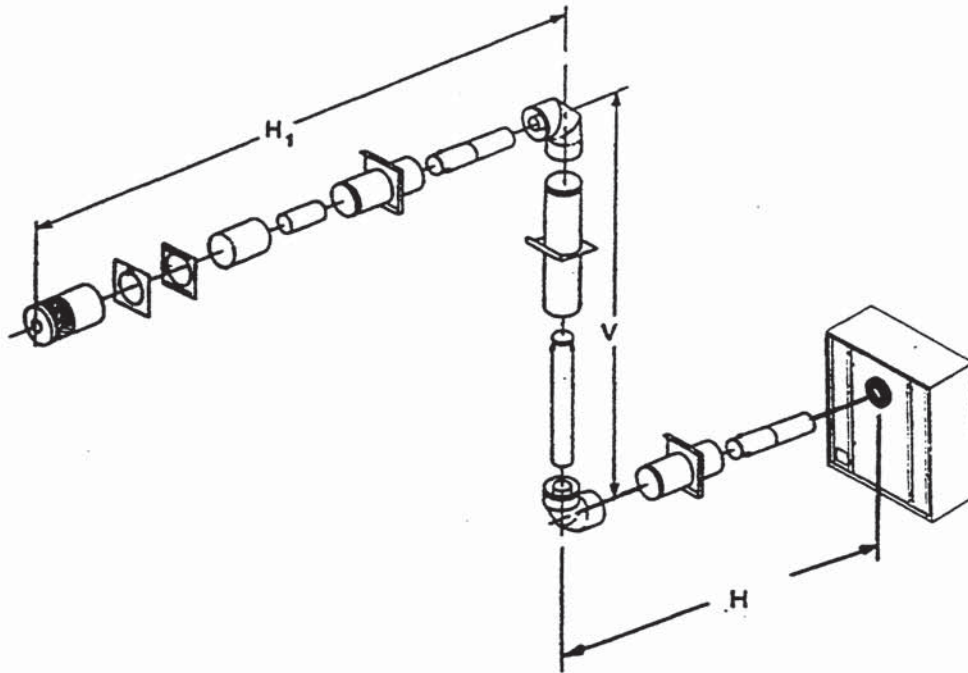

FIGURE 7
Figure 7 and Table 4 show examples of possible installations using two (2) 90 degree elbows. Dimensions V are listed as **MINIMUM** vertical dimensions, dimensions H and H + H1 are listed as **MAXIMUM** horizontal dimensions. Two elbows will result in a horizontal termination.